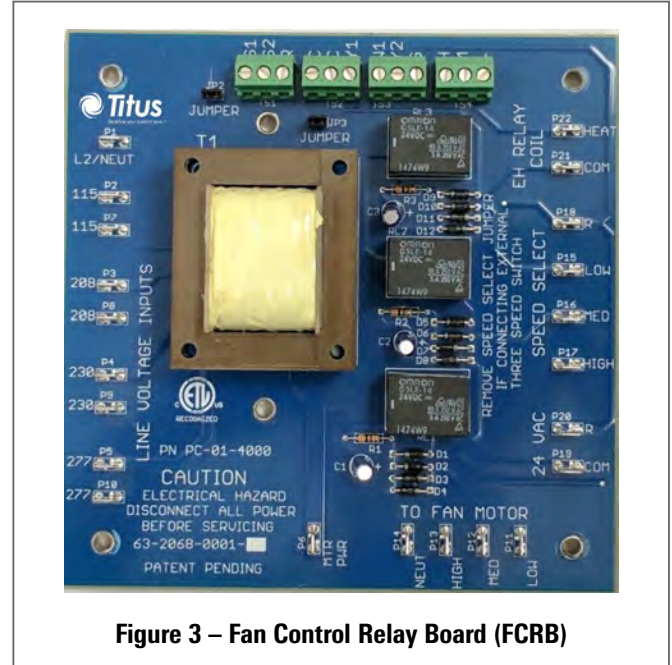

Figure 3 – Fan Control Relay Board (FCRB)
1. Locate the FCRB within the control enclosure. (See Figure 3.)